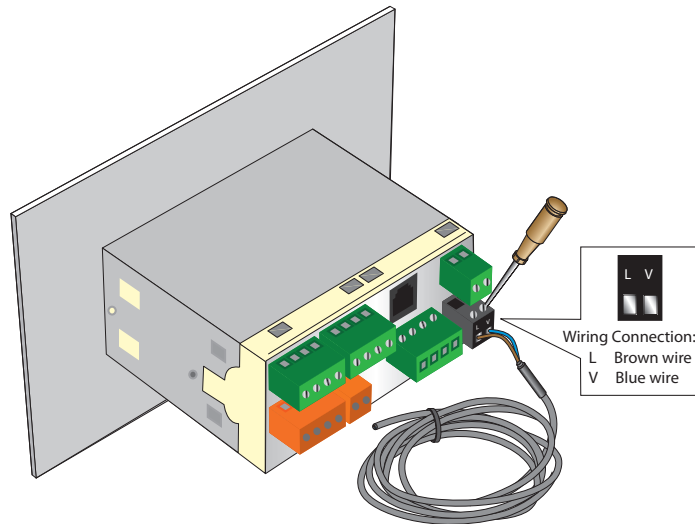

Figure 16 *Low Voltage Power Supply Connections*
Connect the power supply to the monitor (1) as shown in *Figure 16*.